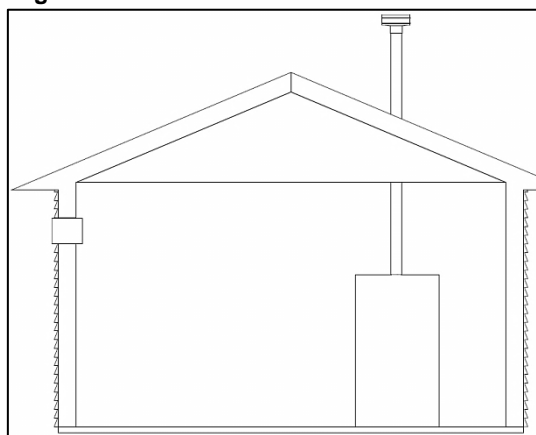

Figure 23 – Combustion Air From Outdoors – Single Opening
4. If a single combustion air opening is provided to bring combustion air in directly from the outdoors, the opening must be sized based on a minimum free area of one square inch per 3000 BTU/hr. This opening must be located within 12" of the top of the enclosure. See Figure 23.